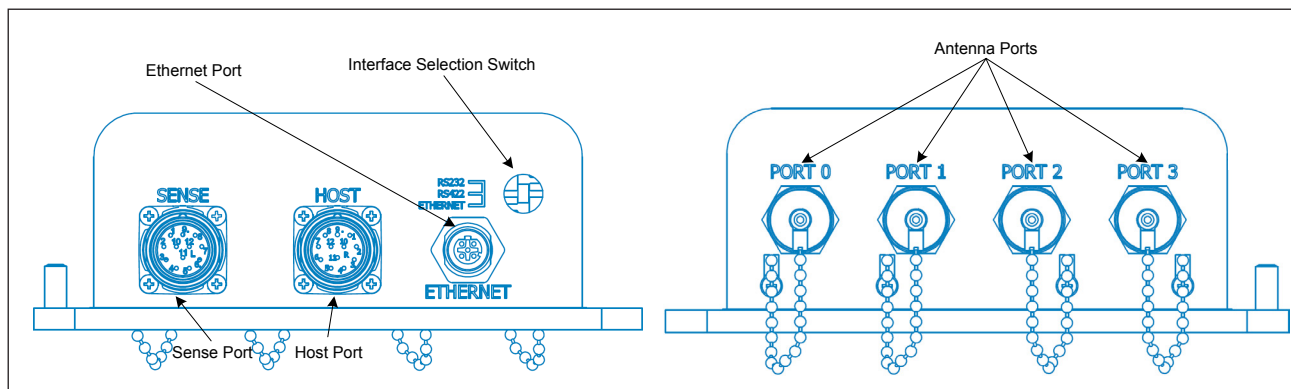

Figure 2–1 MPRX End Views
The MPRX consists of an input/output (I/O) module, a power supply, a reader logic board (also called a tag decoder), and a radio frequency (RF) transmitter/receiver (called the RF module) in a compact enclosure. These MPRX components are contained in a highly reliable, compact, and easy-to-install package. **Figure 2–1** shows the Host connector, Sense connector, Ethernet connector, Interface Selection Switch, and antenna ports locations on opposite ends of the MPRX.